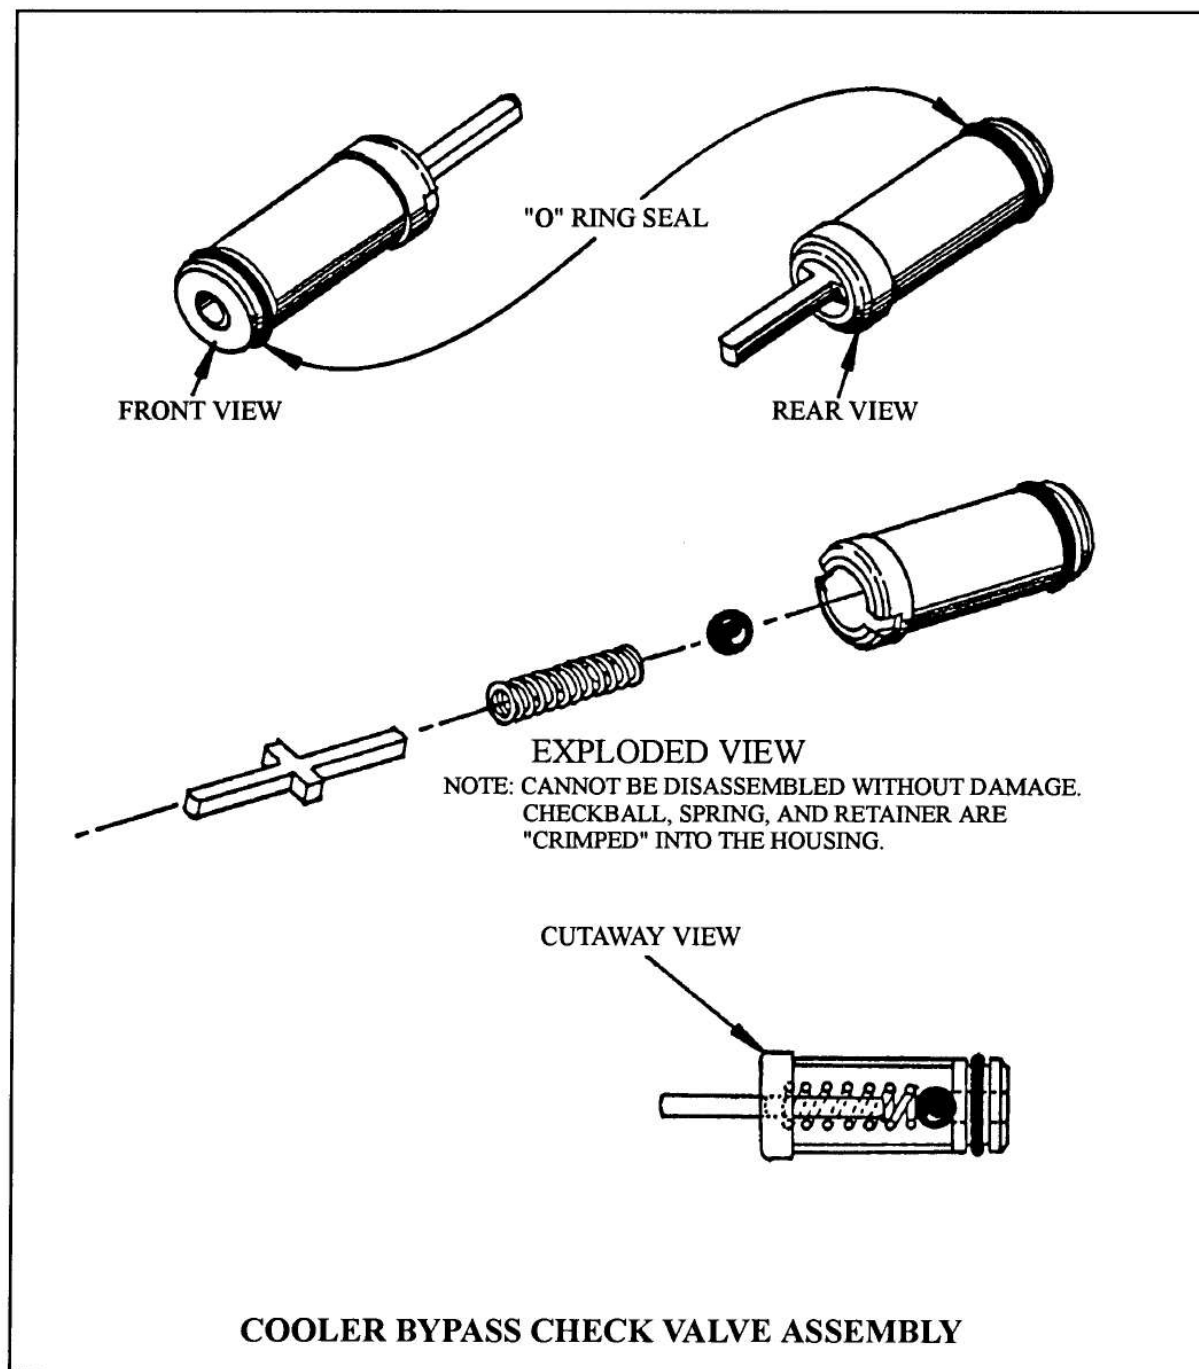

Figure 42
CHANGE: Beginning in 1991 model A604 transaxles, there has been a "Cooler Bypass Check Valve Assembly" added in the transaxle case behind the oil pump. (See Figures 42 and 43).
- (1) **COOLER BYPASS CHECK VALVE** - added into the case cooler passage behind the oil pump (See Figure 43). If cooler oil flow is restricted, or blocked, the new check valve will open, and allow cooler feed oil direct into the lube circuit to prevent transaxle damage. Normal operation is resumed after oil temperature is warm enough to again flow through the cooler. (See Figure 42).